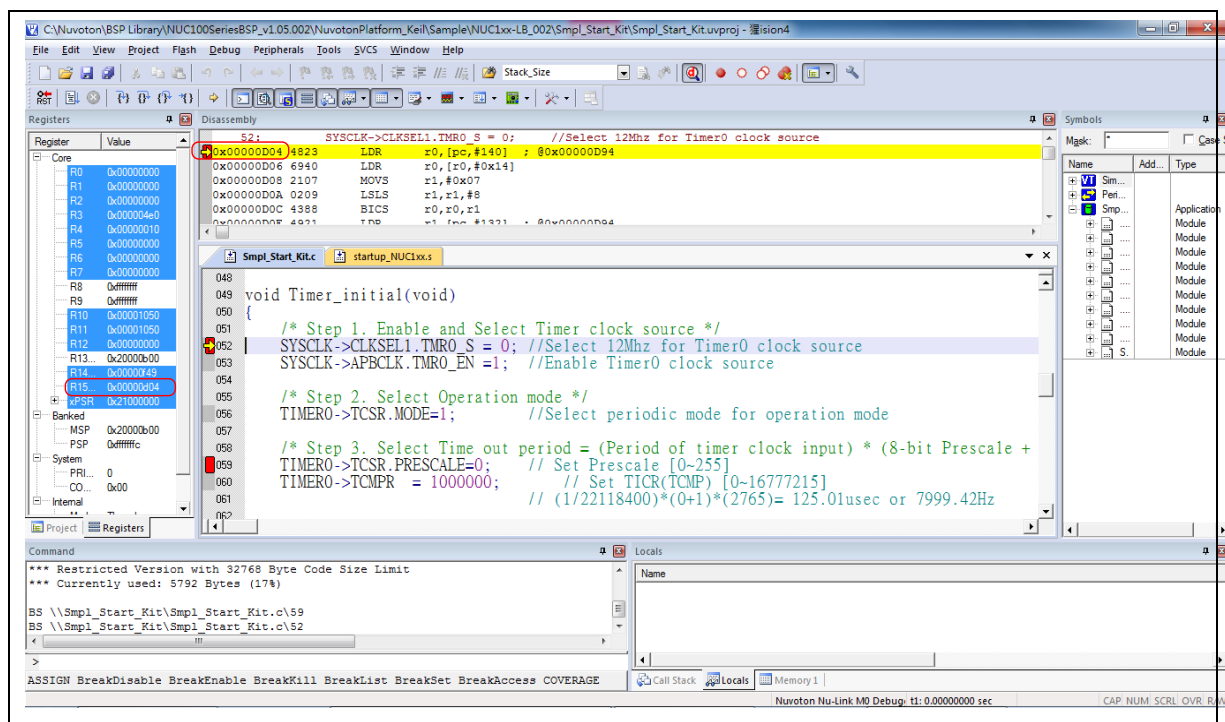

Figure 4.1-1 Setting Breakpoints in Keil MDK Debug Mode
In Debug mode, the user can add breakpoints in the code for debugging. During the real-time simulation of the Nu-Link2-Pro, the chip simulation will be stopped at a specific breakpoint. Figure 4.1-1 shows the breakpoint settings in Keil MDK Debug mode. The red labels on lines 052 and 059 indicate the breakpoints inserted; the yellow arrow refers to the code to be executed next and shows the register value of Program Counter (PC) (i.e. “R15(PC)=0x0000D04” in the **Registers** pane in Figure 4.1-1).